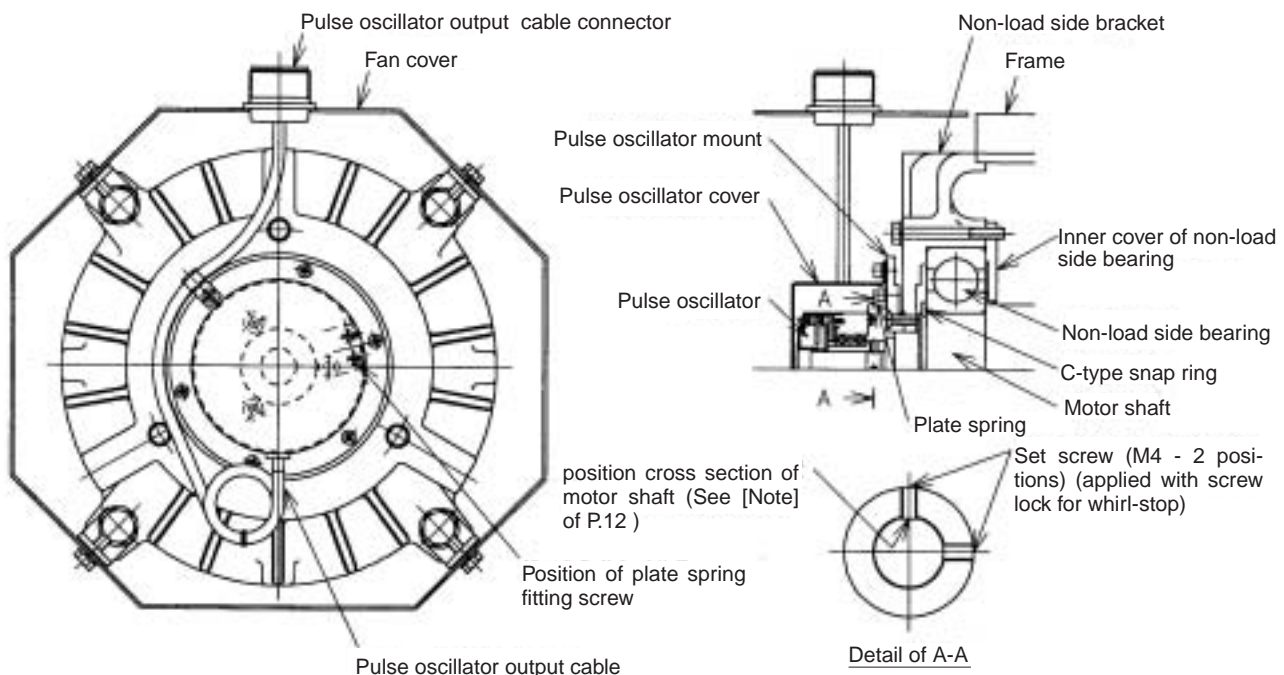
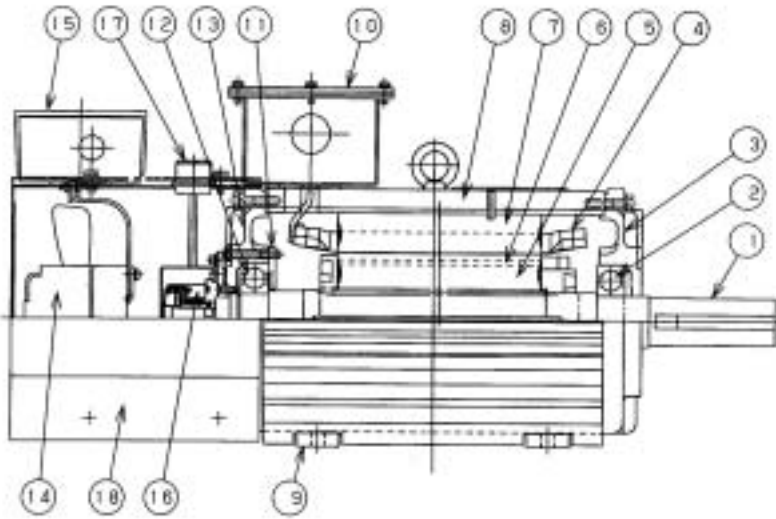
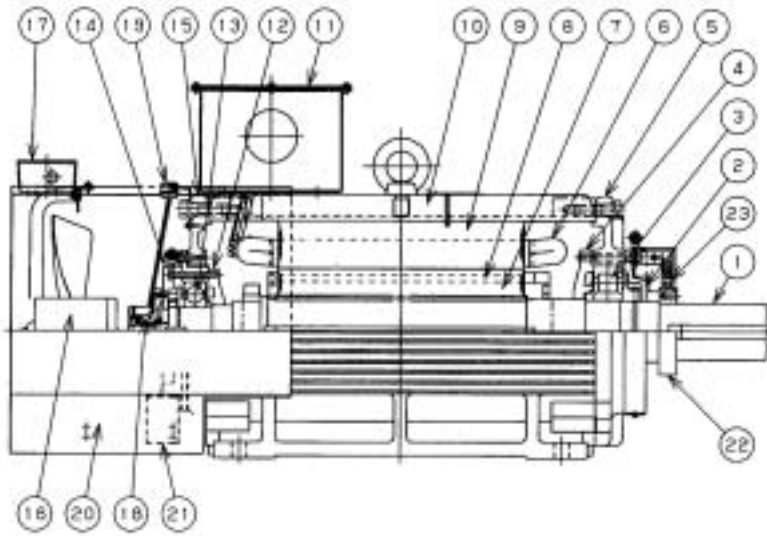

Fig. 7 Detailed drawing of non-load side pulse oscillator and bearing part
Fig. 8 Structural sectioned drawing of EDM17 ~ EDM22
Fig. 10 Structural sectioned drawing of EDM43, EDM54
(See Fig. 7 below and structural sectioned drawings (Fig. 8~Fig. 10))
- 2) Even for the cases of removing and re-mounting of pulse oscillator at the times of replacement, etc. of bearing or pulse oscillator, setscrew position for fixing the pulse oscillator rotor is determined to make that the magnetic pole position detection of the rotor of motor is same. As shown in Detail of A-A Cross Section of Fig. 7 of Page 11, when one of 2 positions of setscrew M4 is coincided with flat cut position of motor shaft (one position of motor shaft, where setscrew contacts, is flat surface), mount the other setscrew arranging that it surely comes to the position turned 90° to counterclockwise seen from the non-load side shaft end (position where motor shaft is not cut flatly).